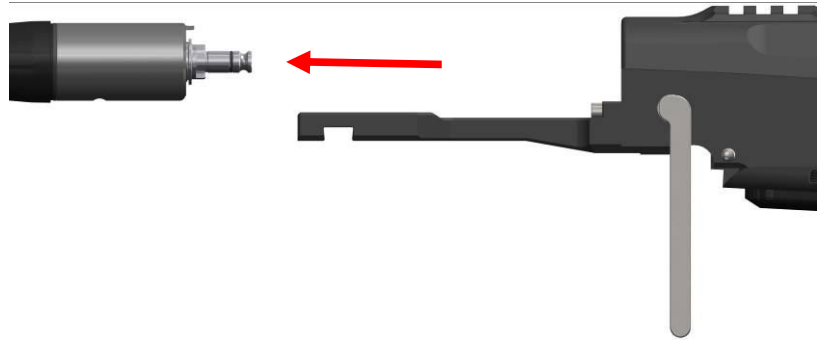

Figure 11
- (5) Take off barrel with bolt head to the front. (Figure 11)